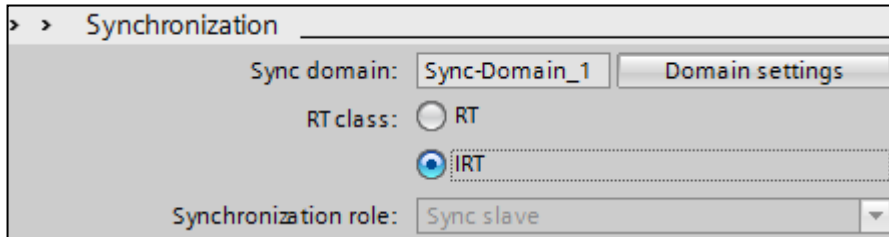

Figure 31: TIA – Properties of PDP67-PROFINET interface [X1] » Real time (IRT)
- Function: Activate IRT function 'Sync master'** (see also "Sync slave", Figure 31 [book icon 27])